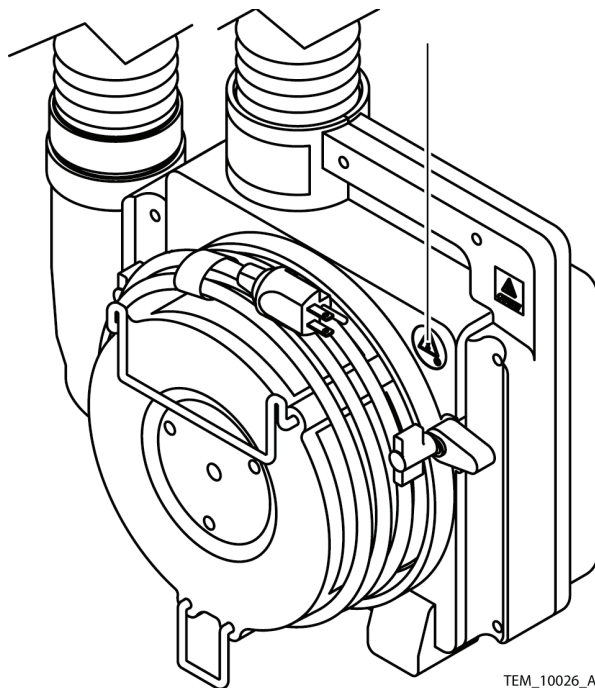

Figure 8. Over-Temperature Test Port
7. Loosen the over-temperature test port screw. See Figure 8.
16. Remove the jumper wire from the over-temperature test port. See Figure 8.